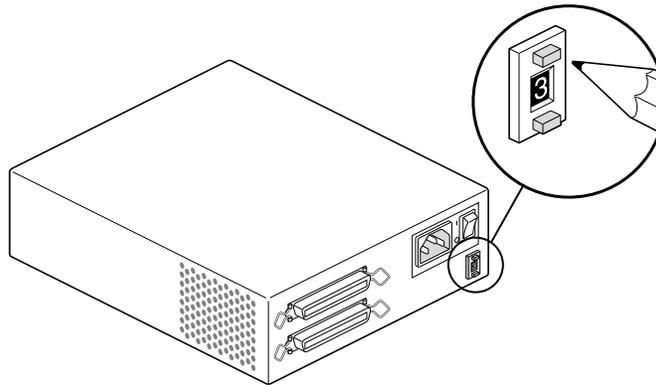

Figure 6-1 Manually Setting the SCSI Address
1. Remove the SCSI device from its packaging, then locate the button, switch, or dial. It may be on the rear or bottom of the device. An example is shown in Figure 6-1.